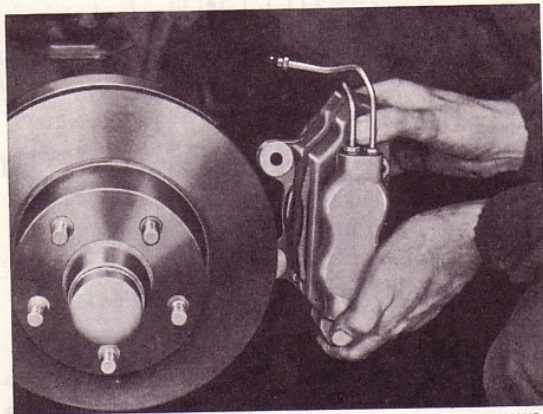

Fig. 17. Removing the front wheel brake unit.
3. Disconnect the brake line (6, Fig. 16) and plug the connection. Make sure that no brake fluid runs on to the brake disc or brake pads. Bend back the locking plate (4) and screw out the attaching bolts (3 and 5). Lift off the brake unit complete as shown in Fig. 17.